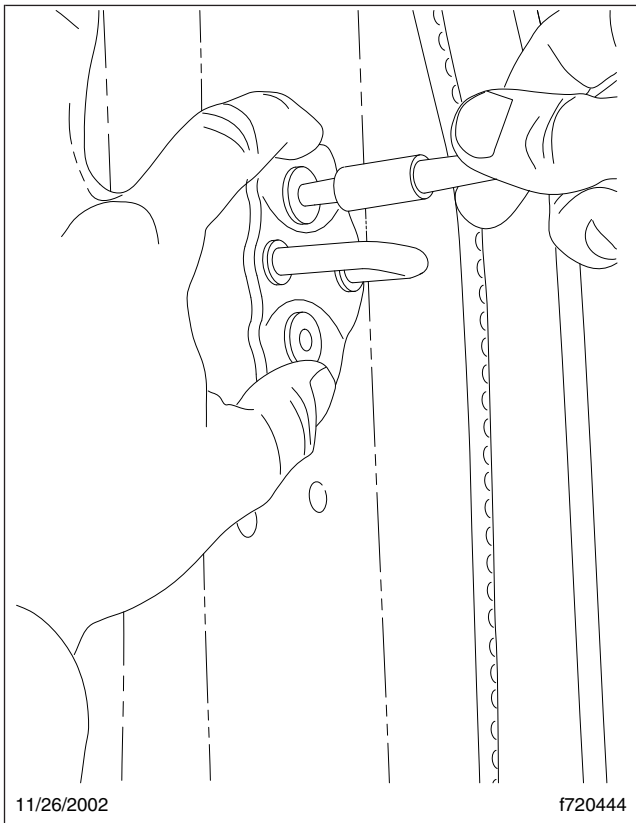

Fig. 3, Striker Adjustment
8. Loosen the striker (Fig. 3), then tighten it just enough to prevent unintentional movement.